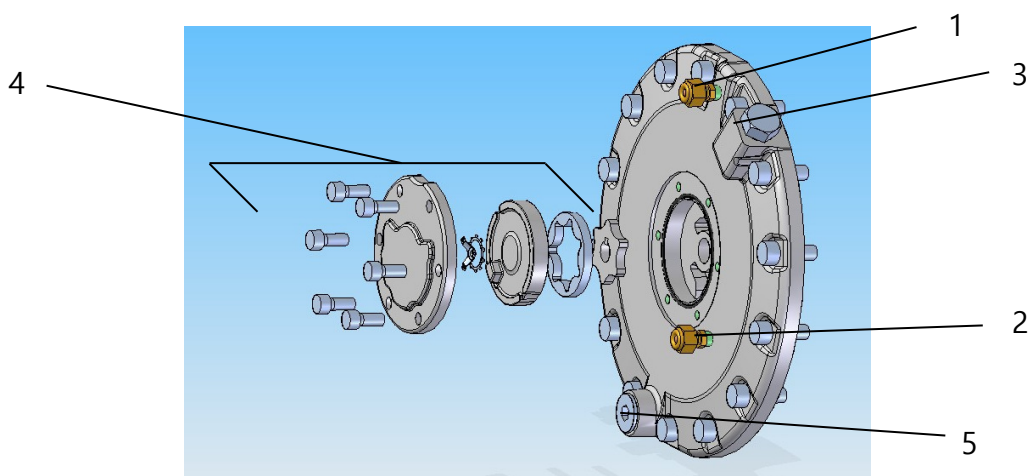
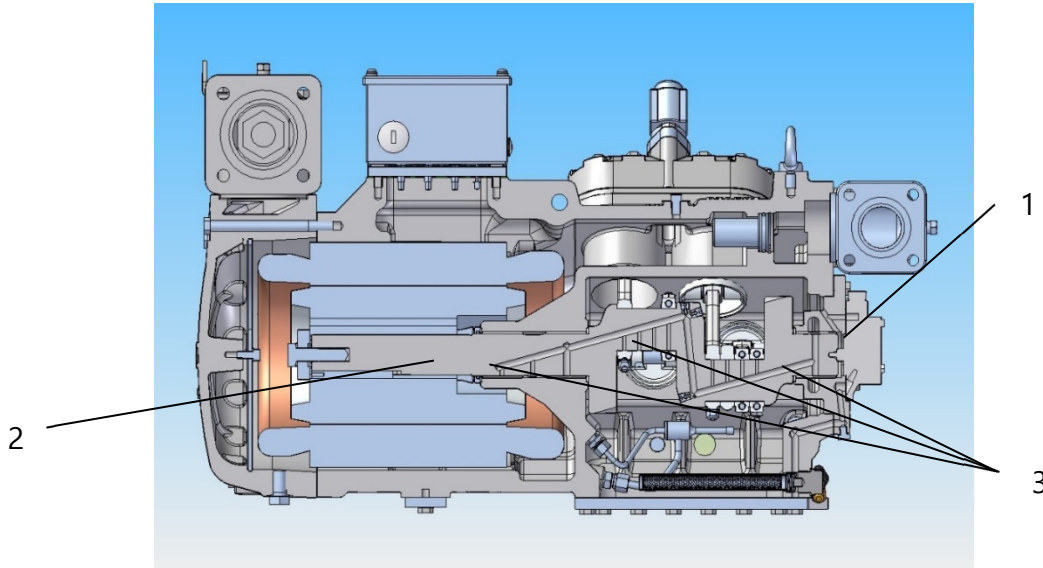

Fig. 10 Gear pump for compressors PP1-L/H4xx-F with forced lubrication
Fig. 12 Compressor model PP1-L/H4xx PP1-L/H6xx PP1-L/H8xx with pump lubrication
The connections for electronic differential pressure device (option) are machined over the casing cap (ref. 3 in Fig. 10).
An optional mechanical differential pressure device (option) could be connected to the high and low pressure connections (ref. 1, 2 in Fig. 10), machined over the casing cap.
The oil gear pump (rif. 1 in Fig. 12) is a separate part assembled onto the discharge sleeve bearing cover casing.
A cross section of a compressor model with pump lubrication is shown in the Fig. 12.
The measurement of the differential pressure P_{oil} has to be done between (1) and (2) connections shown in Fig. 10 or Fig. 12.